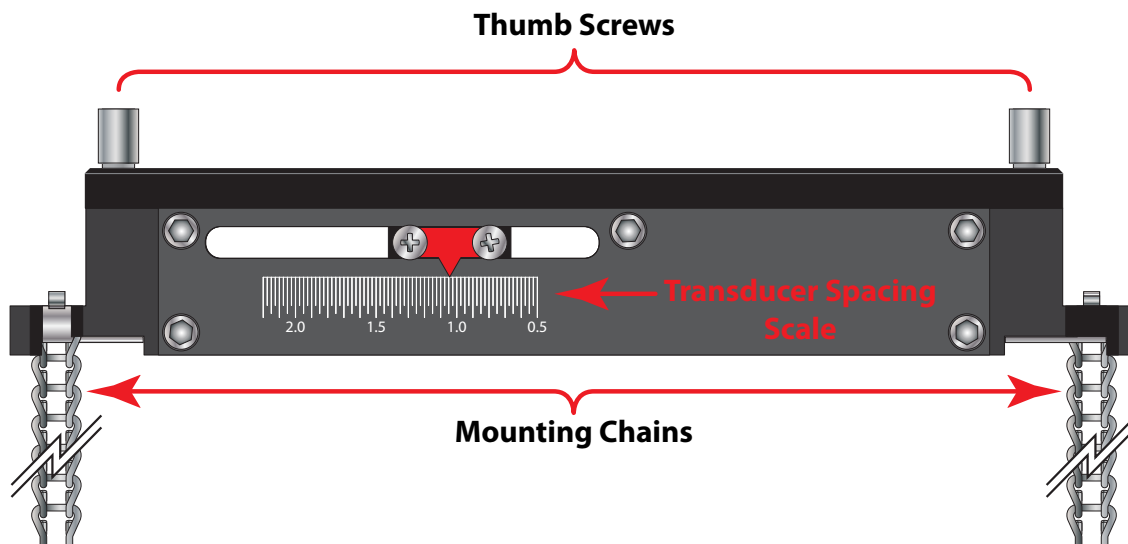

FIGURE 5.5 - TRANSDUCER SPACING SCALE — DTTSU TRANSDUCERS
- 1) Determine the transducer spacing required using the DXN and using the scale on the side of the DTTSU transducers set the spacing. See **Figure 5.5**.